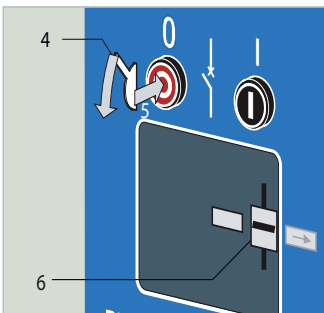

Fig. 10.22
Press the left-hand lever down (Fig. 10.22, 4). To switch OFF, press the red pushbutton (left-hand - 5). Circuit-breaker is switched OFF. The position indicator indicates "OFF" (6).